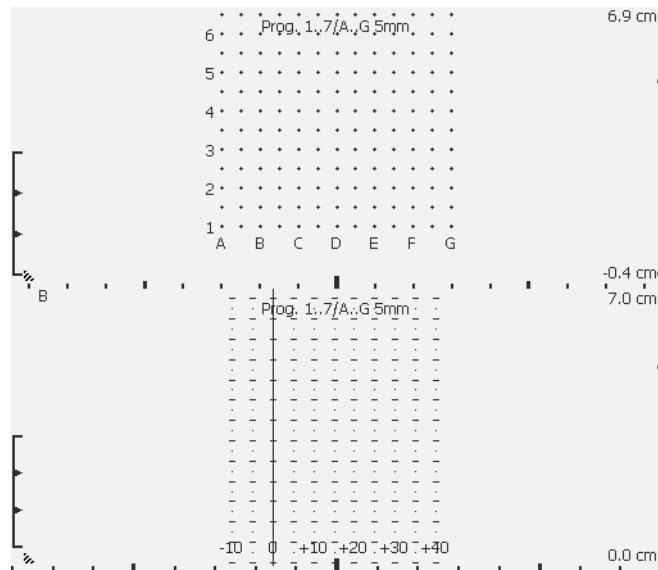

Figure 8-5. A split-screen view with transverse brachy matrix above and sagittal brachy ruler below. Ruler has vertical line to mark 0.
**NOTE:** You can set up the system so that a vertical 0 line is always visible, along with the markers as shown in Fig 8-5.